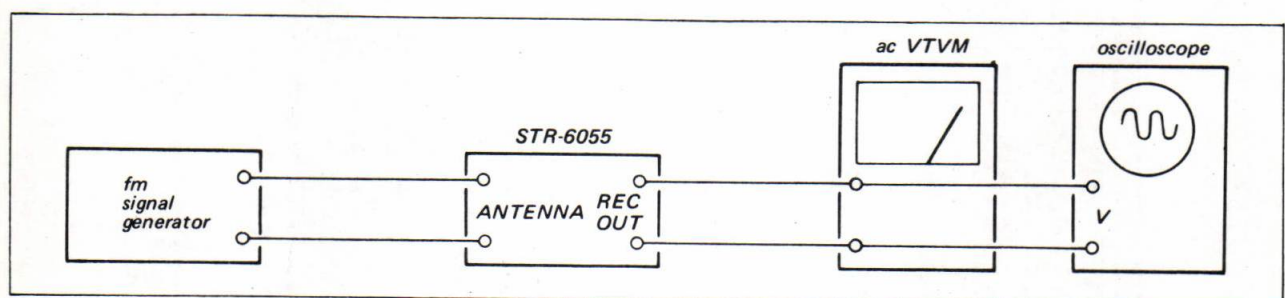

Fig. 3-3. Fm i-f, muting and front-end alignment test setup
1. With the equipment connected as shown in Fig. 3-3, set the signal-generator's controls as follows:
- With the equipment connected as shown in Fig. 3-3, set the receiver's controls as follows:
2. Connect the equipment as shown in Fig. 3-3.